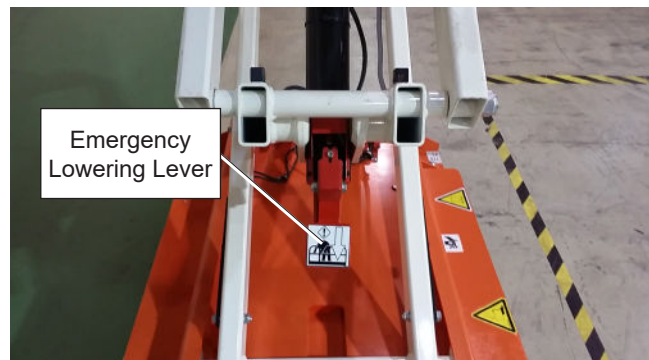

Figure 3 – Emergency Lowering Control
- Push downward on the lever to lower the platform (refer to Figure 3).